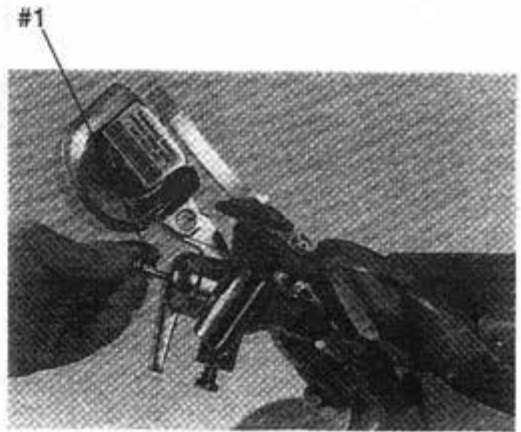

Figure 21-1
2. Return the sharpener to its original position by pulling out knob (#1) and swinging back. (Figure 21-1)